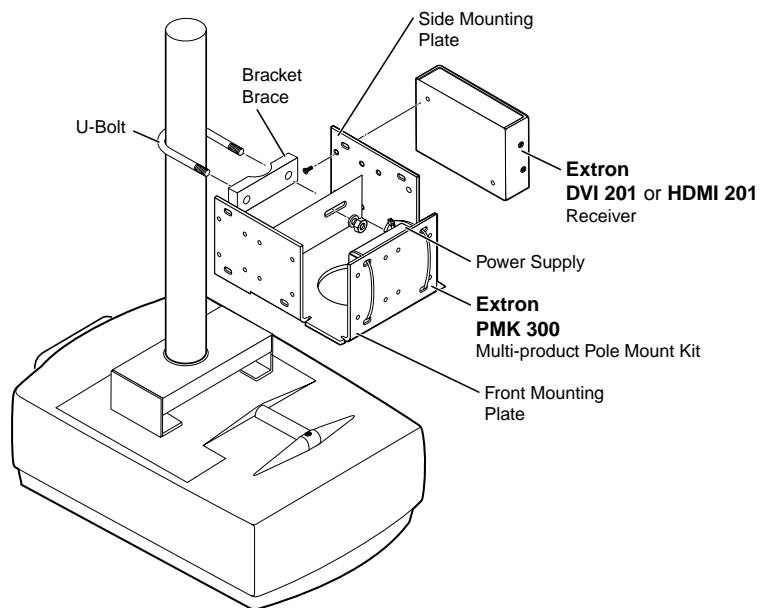
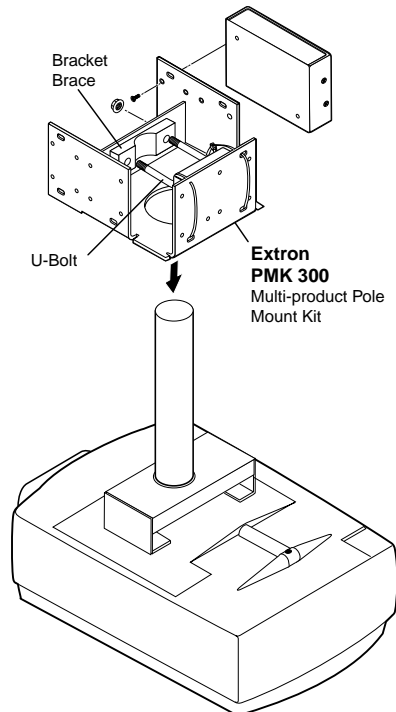

Figure 6. PMK 300 Projector Mounting a Receiver
Figure 7. Projector Pole on the Inside
2. Mount the receiver to one of the three mounting plates on the bracket using two of the supplied 4-40 x 3/16-inch screws in opposite (diagonal) corners to secure the device to the bracket. It can be vertically mounted facing either up or down (figure 6).
NOTE: The PMK 300 has a hole in the bottom plate that allows the projector pole to be inserted through the center of the plate (figure 7), rather than outside of the plate (figure 6). To install the PMK 300 in this configuration, slide the bracket up from the bottom of the pole before the projector is installed on the pole.